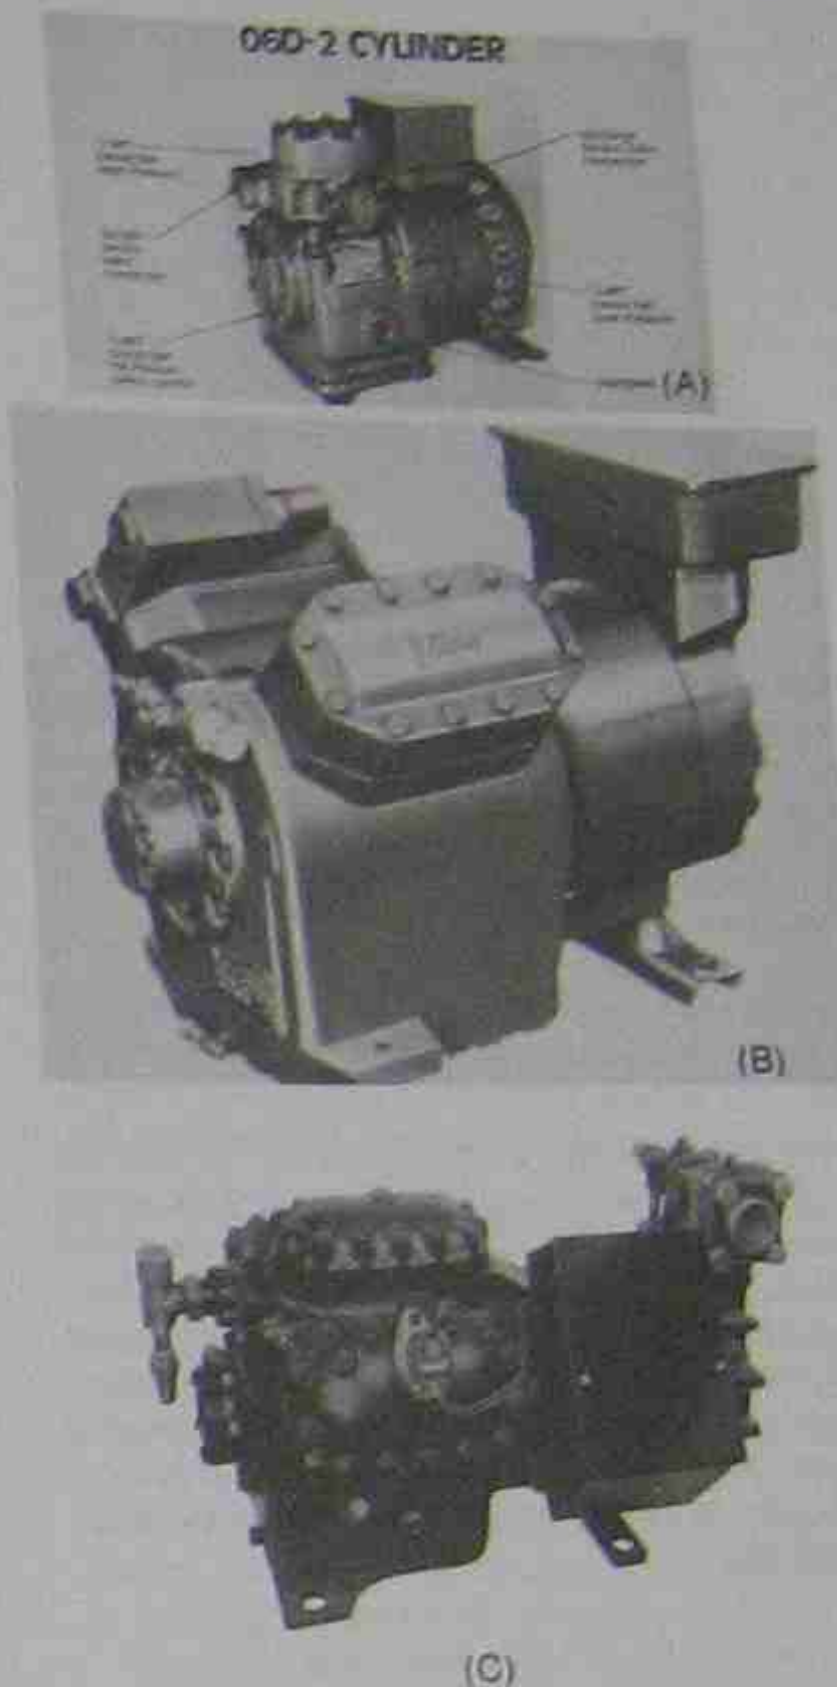

Figure 21-33. Serviceable hermetic compressors. Courtesy (A) Reproduced courtesy of Carrier Corporation (B) Trane Company (C) Copeland Corporation
**The Serviceable Hermetic Compressor.** The serviceable hermetic normally has a cast iron shell and is considered a low-side device. Again, because of the piping arrangement in the head, the discharge gas is contained either under the head or out of the discharge line. The motor is rigidly mounted to the shell, and the compressor must be externally mounted on springs or other flexible mounts to prevent vibration. The serviceable hermetic is used exclusively in larger compressor sizes because it can be rebuilt. The compressor components are much the same as the components in the welded hermetic and will not be covered again, Figure 21-33.